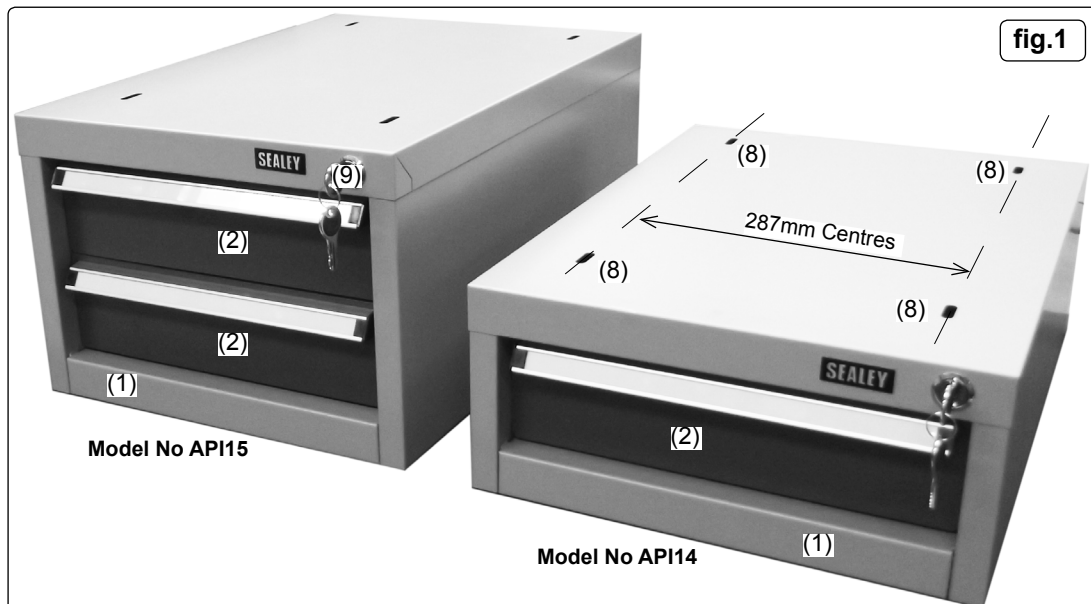

fig.1
- 5.2.1. Locate the two bridge channels from beneath the bench at the required centres (fig.1) and (fig.5). As a suggestion only; position the bridge channels centrally about the bench width for best access.